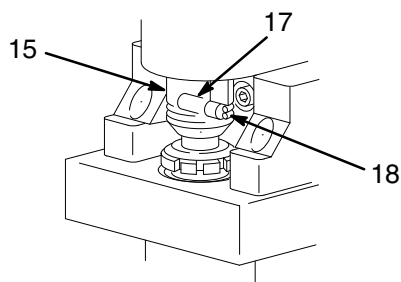
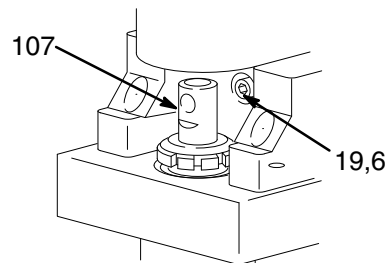
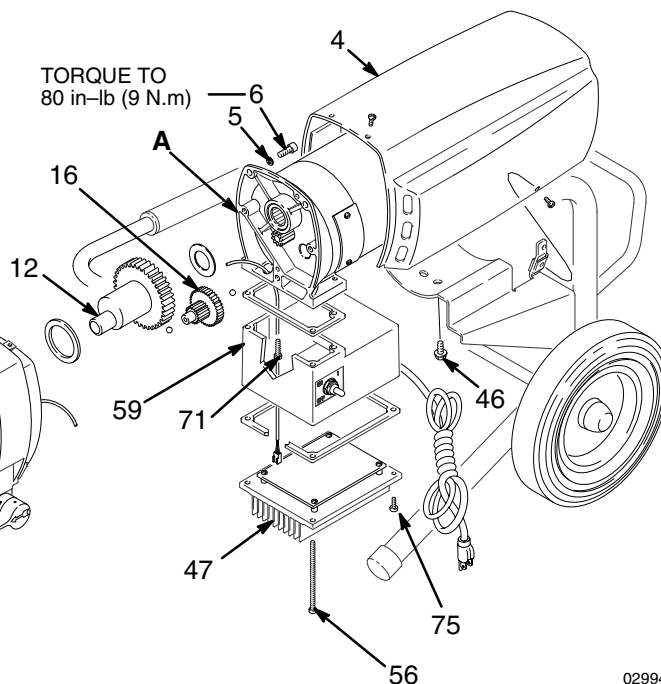

Fig. 24
Fig. 25
Fig. 26
**NOTE:** See Fig. 26 except where noted.
2. Remove the motor shield (4).
3. Try to stop the pump with the piston rod (107) in its lowest position. To lower the piston rod manually, rotate the motor fan blades. Use a screwdriver to push the retaining spring (18) up and push out the pin (17). See Fig. 24.
4. Remove the shroud (4).
5. Lift the connecting rod. Remove the screws (56,75) and lower the control card (47). Disconnect the motor wires and the pressure transducer wire (A) from the motor control board. Refer to Fig. 26.
6. Remove the drive housing cover (13). Remove the control card (47), screws (71), and junction box (59).
7. Turn the displacement pump rod (107) so the pin hole aligns with the bottom drive housing screw (19). See Fig. 25. Remove the three drive housing screws and lockwashers (19,6). See Fig. 25 and 26.
9. Tap the lower rear of the drive housing (11) with a plastic mallet to loosen the motor. Pull the drive housing straight off the motor while guiding the harness (A) from the motor. Do not allow the gear (16) to fall. Read the CAUTION on page 30.
10. Remove the two screws (46) and lift the motor off the cart (1).
11. Align the new motor with the cart and reinstall the screws (46).
1. Remove the screws (56,75) and lower the control card (47). See Fig. 26.
1. Remove the screws (56, 75) and lower the control card (47). See Fig. 26.